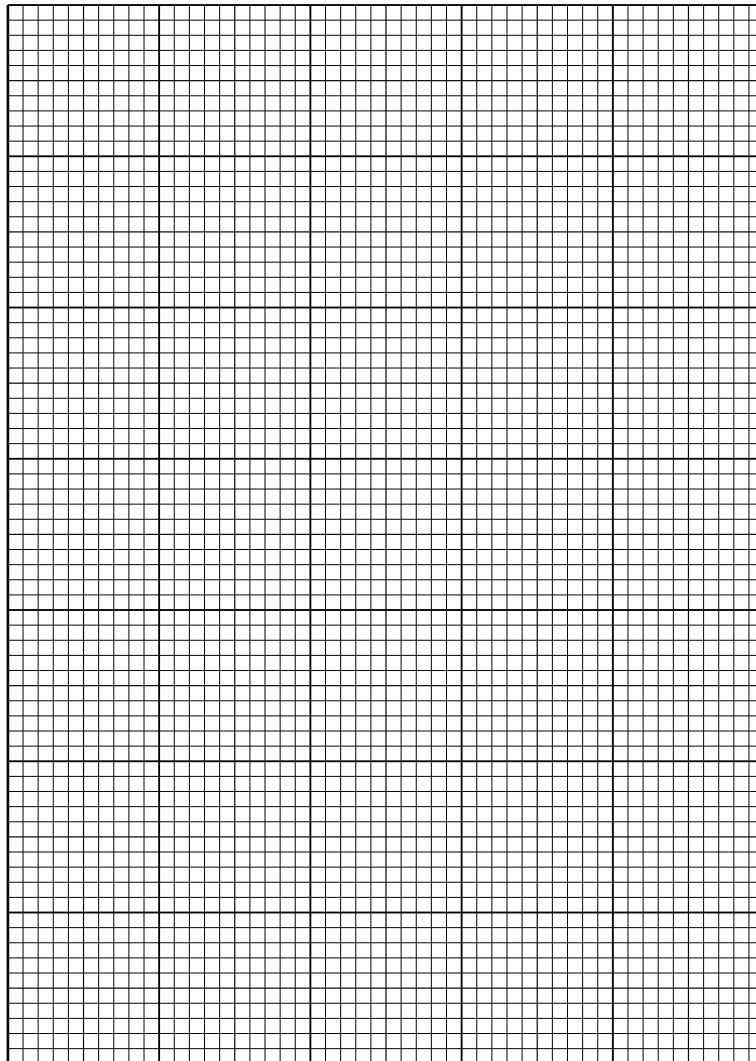

Fig. 1.2
- (i) Plot a graph of the data shown in Table 1.3 on the grid in Fig. 1.2.